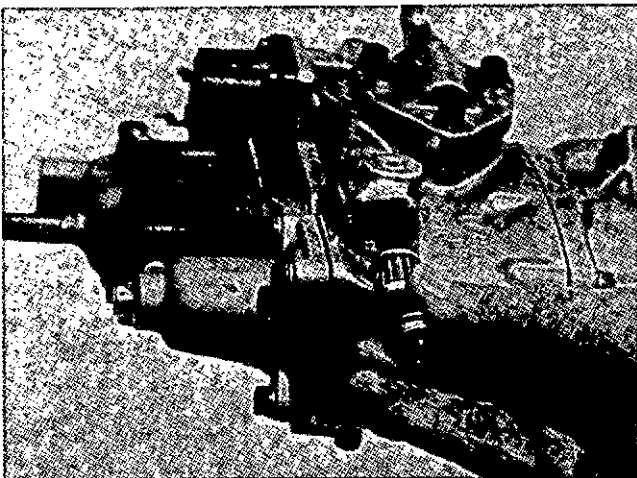

Fig. 8-3, (F5265). Install the fuel screen in the PT (type G) VS housing.
4. Assemble the screen in the bottom of the PT (type G) VS housing with the hole in the screen up, Fig. 8-3.